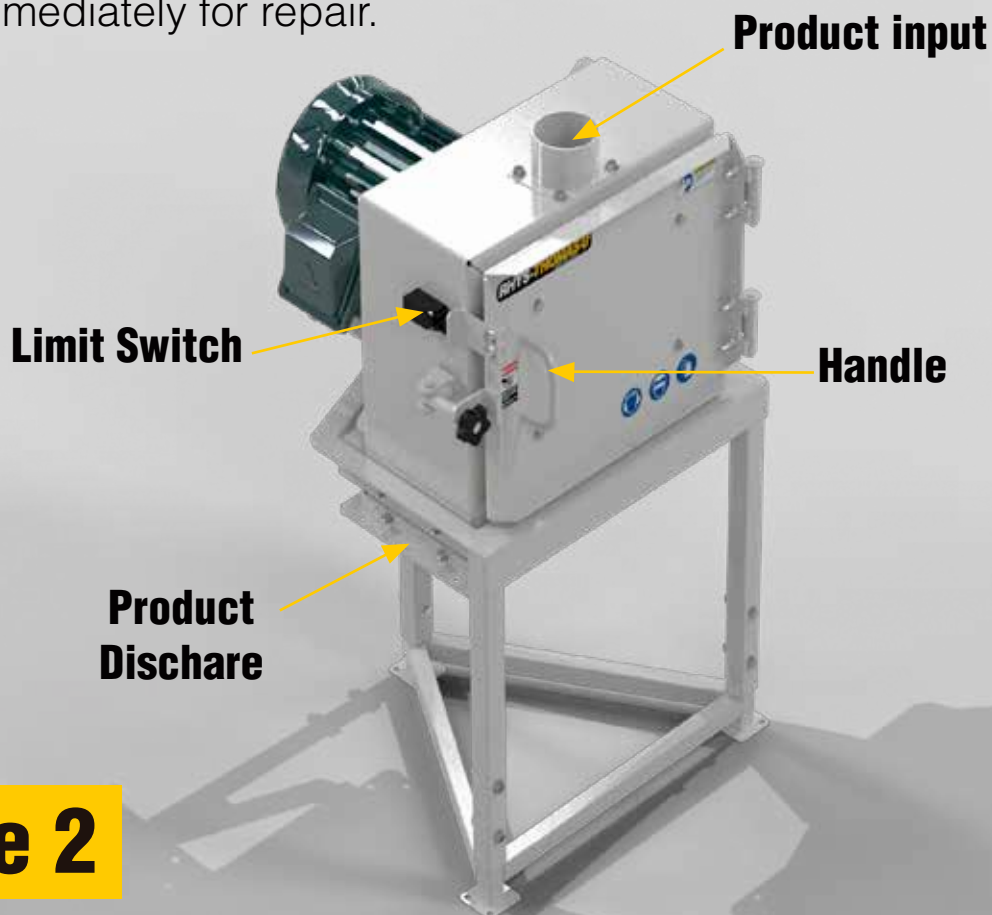

Figure 2
The seeds or materials are poured by mechanical or manual means into the inlet duct (see fig. 2), then the grains are crushed by the continuous impact that the hammers will exert on the product, until it is pulverized. The size of the particles will depend on the diameter of the holes in the screen.
- Gradually load the machine through the inlet duct (see fig. 2).